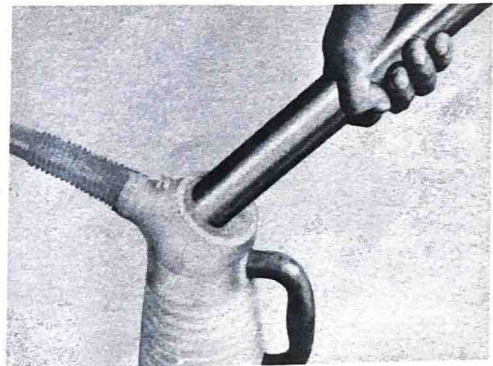

Fig. 5-6-5
- 1) Drain the oil from the fork. (Fig. 5-6-5)